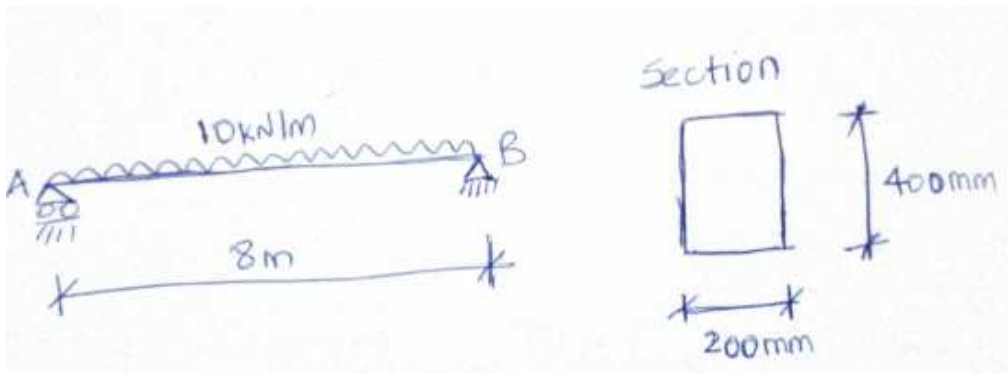

Figure 2
- c) Fig. 2 below shows a beam loaded as shown. The cross section is as shown. At interval of 25 mm along the depth plot the shear stress distribution along the depth of the cross section at support A. (8 marks)